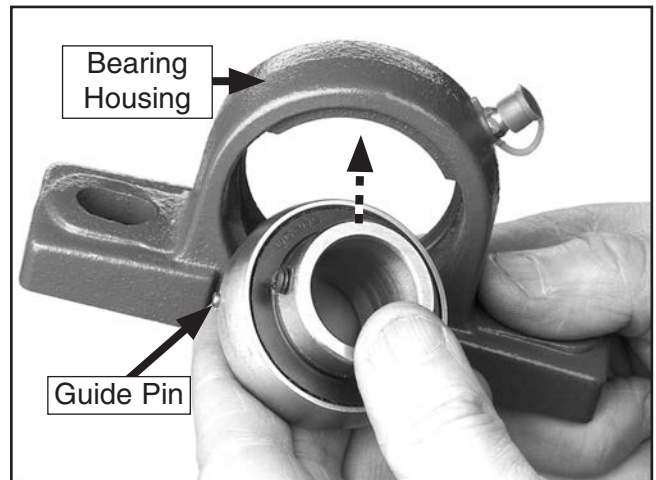

Figure 48. Typical removal and installation bearing positioning.
6. Slide the bearing out of the bearing housing, as shown in **Figure 48**.
- Clean and inspect the bearing-housing for cracks, burrs, wear, and other damage; replace/repair as required. The bearing race should rotate inside of the bearing housing smoothly. If the race is loose or wobbles inside of the bearing housing, replace the bearing housing (**Figure 48**).